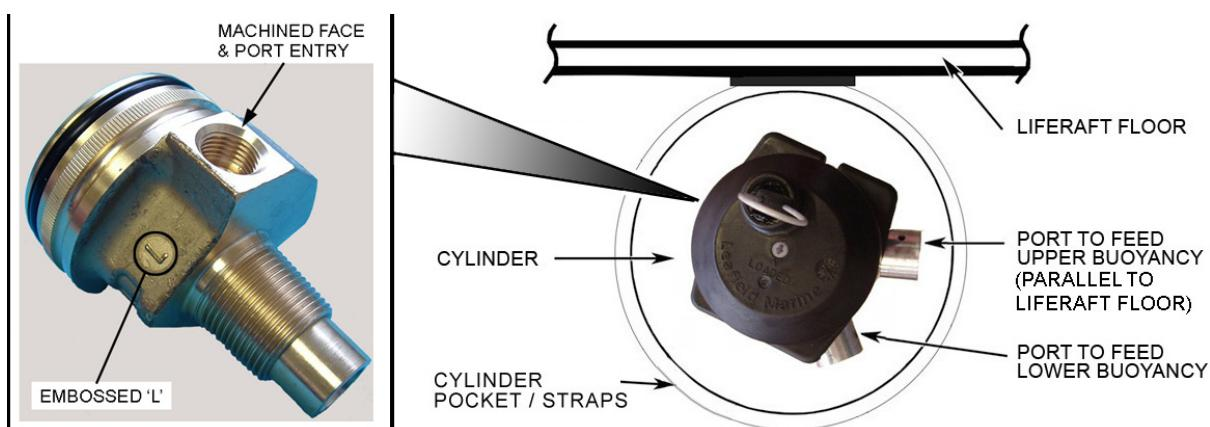
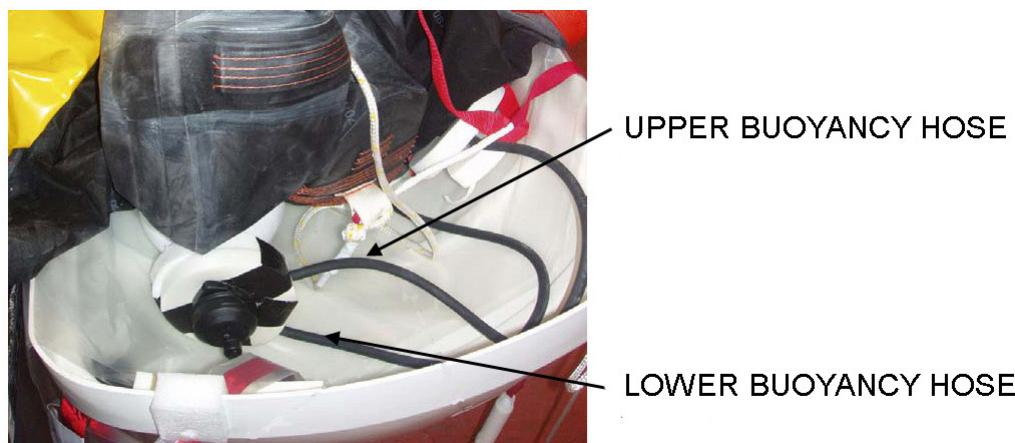

FIGURE 01
FIGURE 02
Documented procedures for the operational packing of MkIII and MkIV liferafts specify the position of the cylinder valve/hoses relative to the liferaft floor, (FIGURE 01), and container, (FIGURE 02). These procedures ensure the serviceability of the inflation equipment during operational packing and use.
5.1.9 Continue with the documented assembly procedures. At all times, ensure the cylinder is orientated so that the upper buoyancy hose runs parallel to the liferaft floor, (FIGURE 01). The lower buoyancy hose will be automatically in the correct position, (FIGURE 06).